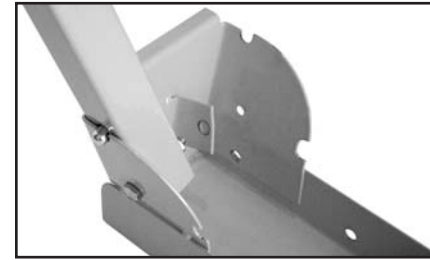

Figure 1
1. Install Leg **B** as shown in Figure 1 to Top Frame **A** and secure with 1/4" - 20 x 1-3/4" Bolt **G** and 1/4" Lock Nut **H**. Insure that Snap Pin is facing out and securely latches in the open and closed positions. Do not over tighten. Repeat on remaining three Legs.